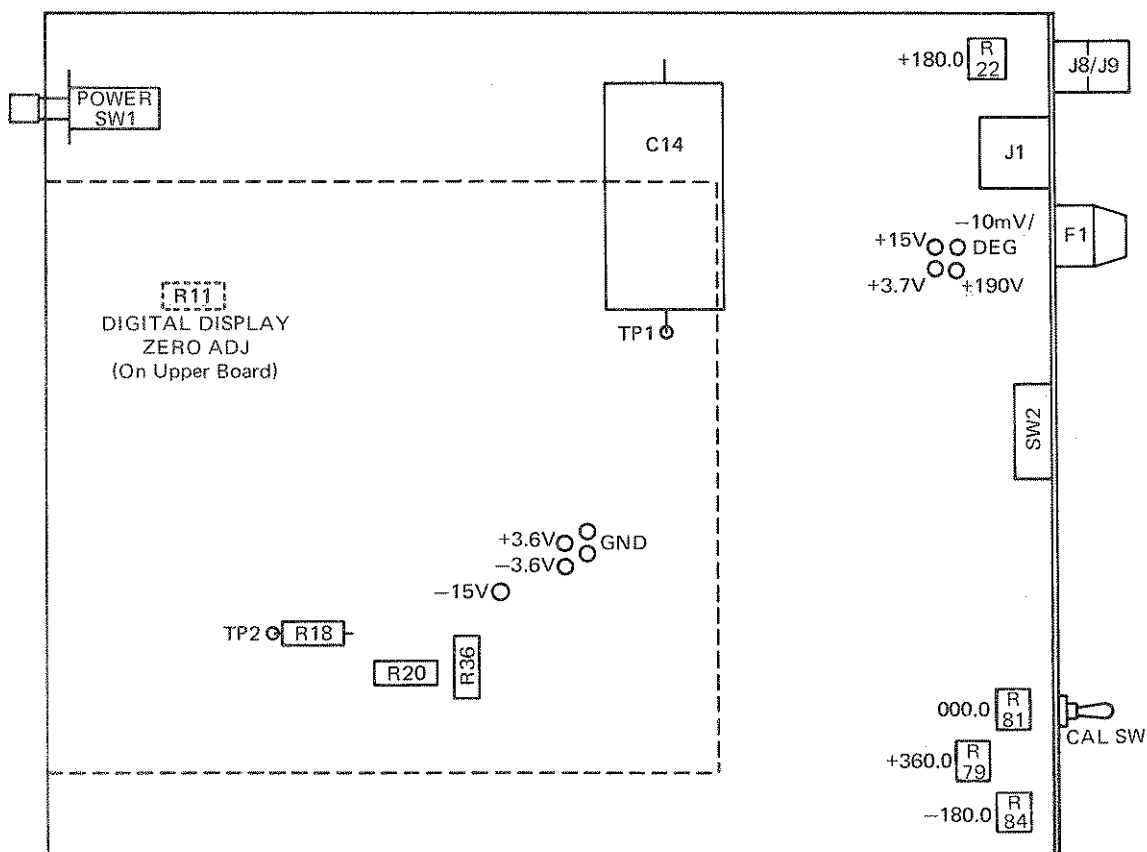

Figure 4-2. Logic Board Adjustment Locations
11. Connect the positive probe of the voltmeter to test point TP2, and the negative probe to TP1, of the Logic Board (Figure 4-2).